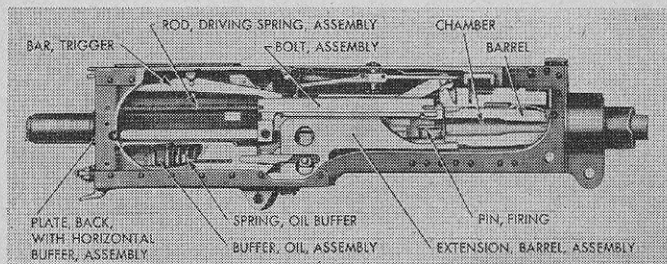

FIGURE 16.—Cut-away section, caliber .50, M2 machine gun.
■ 37. OPERATION.—Each time a cartridge is fired, the mechanical action within the gun involves many moving parts. These parts are shown assembled in the cut-away section (fig. 16).